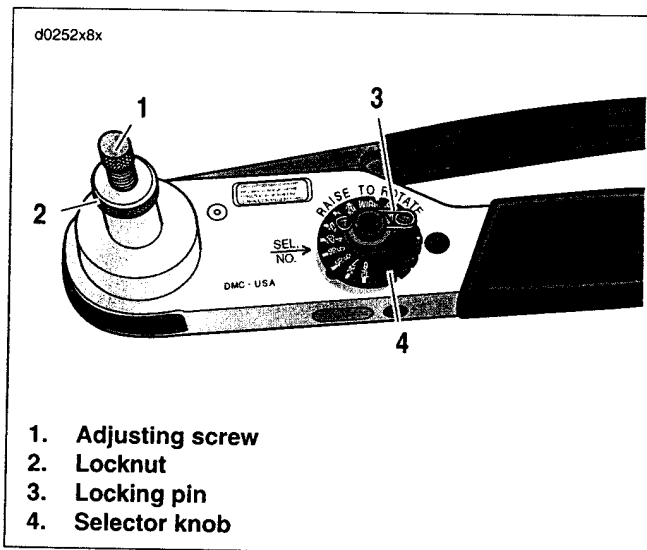

Figure B-14. Deutsch Solid Barrel Contact Crimp Tool (Part No. HD-42879)
2. See Figure B-14. Remove locking pin (3) from selector knob (4).